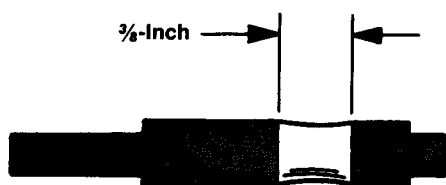

Figure 4-2 Excessive Shaft Wear
1. With the Midi Trak-Ball disassembled, inspect the roller shafts and the idler shaft for excessive wear (see Figure 4-2). If the wear band exceeds $\frac{3}{8}$ inch, replace the roller shaft as described in steps 2–6 or replace the idler shaft as described in steps 7–10.